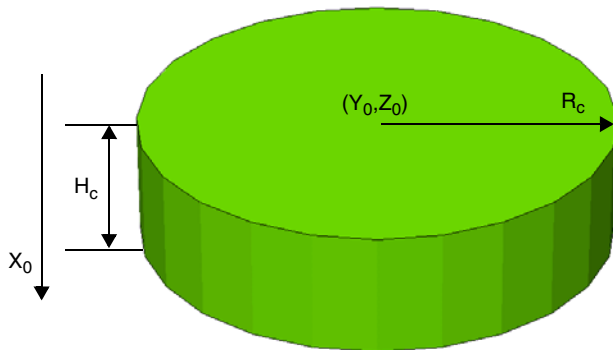

Figure 70 Cylinder-shaped polyhedron
- Other parameters give the center coordination, the radius, and the height for the cylinder (see Figure 70).